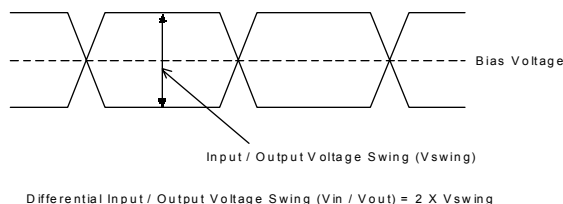

Figure 7. Definition of Differential
1. Refer to Figure 7.
Refer to Figure7. about definition of differential swing.